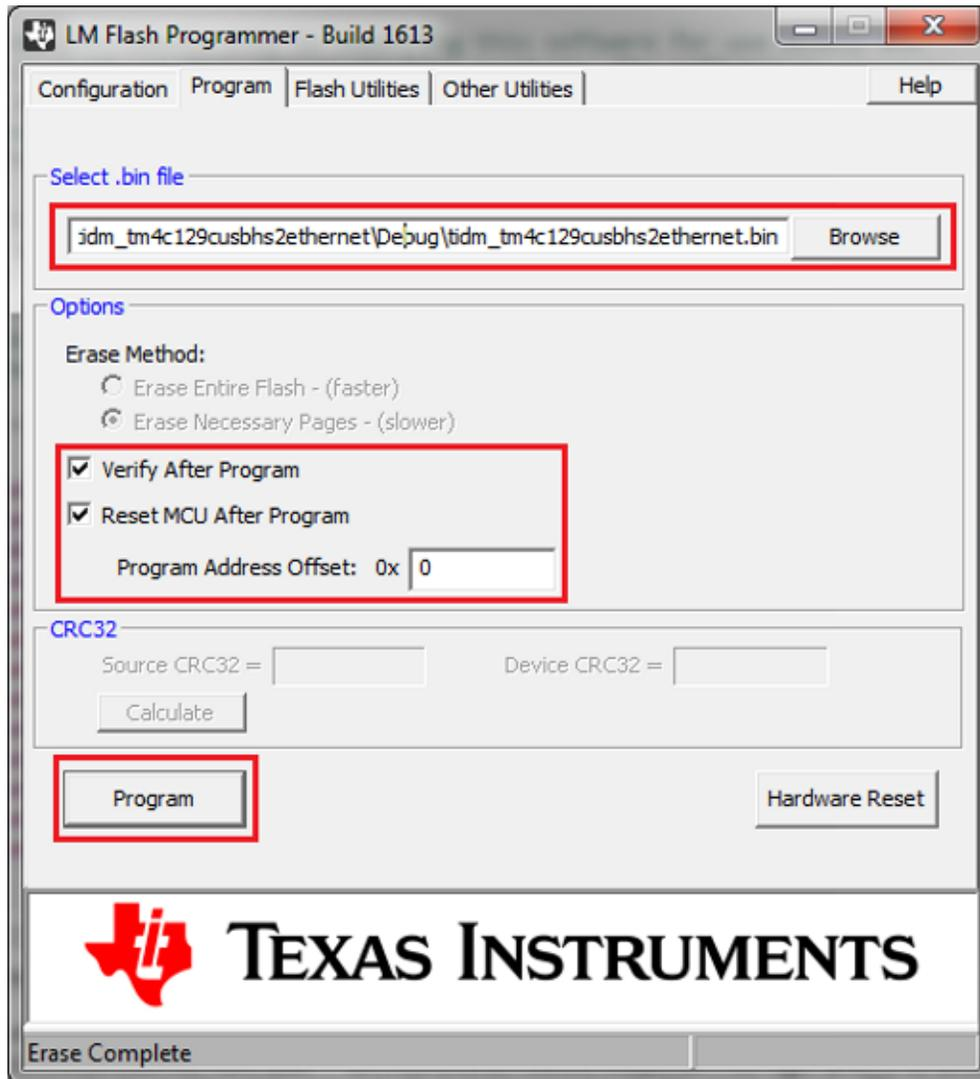

Figure 19. Programming the Application
- Click on the *Program* tab and select the binary file (see Section 2.2.3) generated in the CCS workspace (see Figure 19). Make sure the program address is set to 0x0 as shown in Figure 19